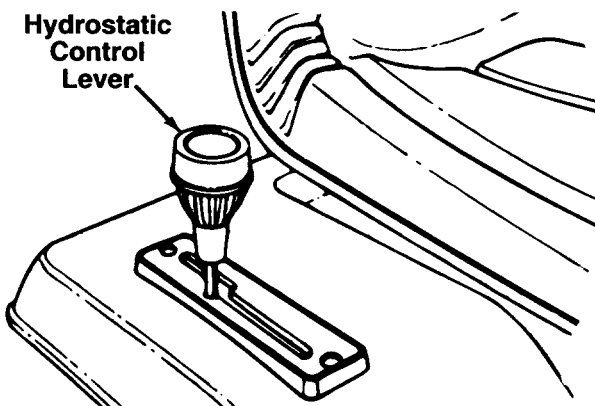

FIGURE 10
The hydrostatic control lever is located on top of the fender on the right side of the tractor. This single control lever, connected to the hydrostatic transmission, controls both the speed and direction of the tractor. Infinite speed control is achieved by moving the control lever forward or backward. The farther forward or backward you move the control lever, the faster you will travel. Pulling the control lever into neutral (N) area will stop the tractor. See figure 10.